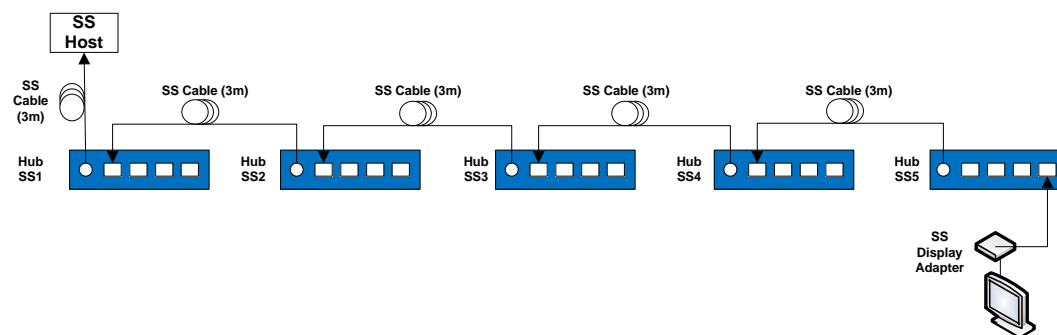

Figure 10-3: Modified Hub (SS Interoperability) Interim Tree – Display Device
- Connect HUTs as shown in Figure 10-3 (Note use of 5 hubs)